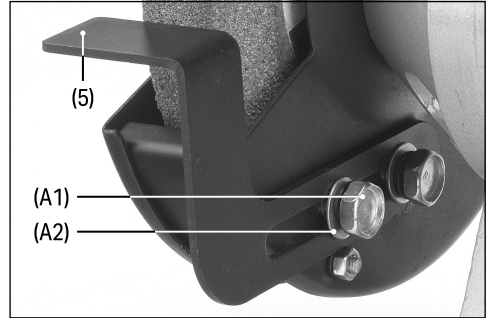

Fig. 2
6.3 Fitting the Tool Rests (Fig.2)